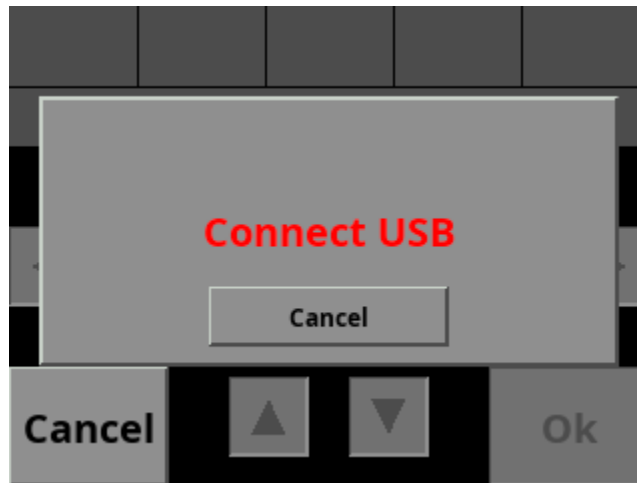

Figure 20: Import Settings screen with “Connect USB” message
- STEP 2: Navigate to the Calibration → Config → Settings → Import Settings screen. Figure 20 will appear, as shown below.